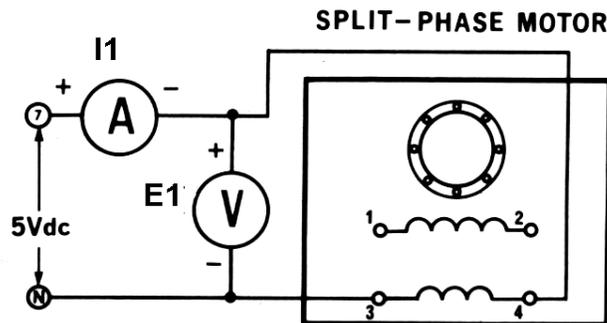

Figure 6-3
- 3) Connect the circuit as indicated in Figure 6-3.